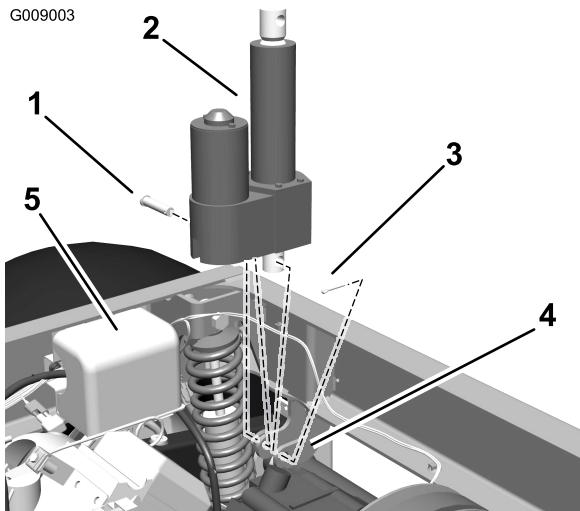

Figure 4
3. Locate the mounting arm on the vehicle frame. Mount the lift actuator to mounting arm. Use a clevis pin (2-1/4 inch) and cotter pin to the secure the lift cylinder to the arm Figure 4.